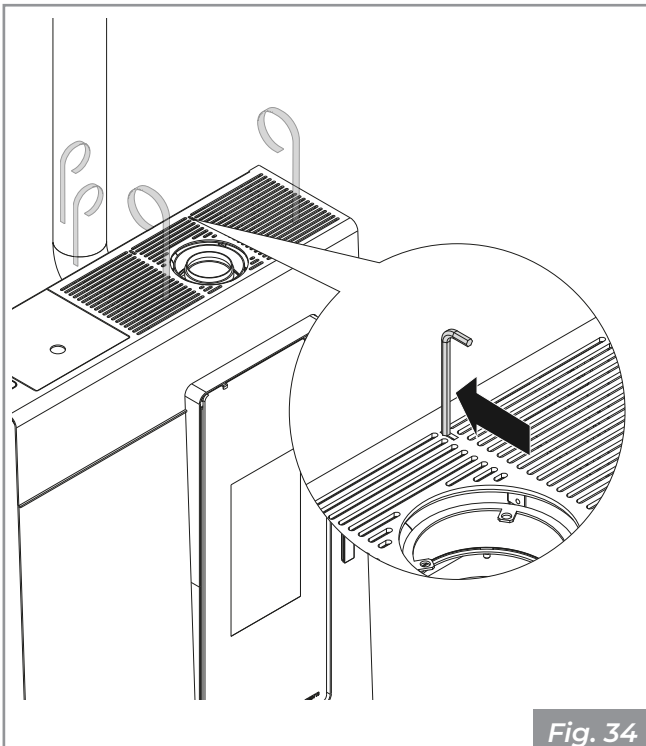

Fig. 34
- upper and rear (**Fig. 34**).